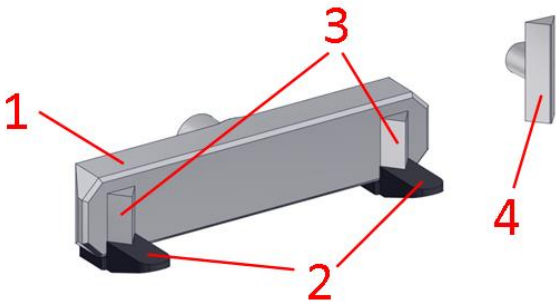
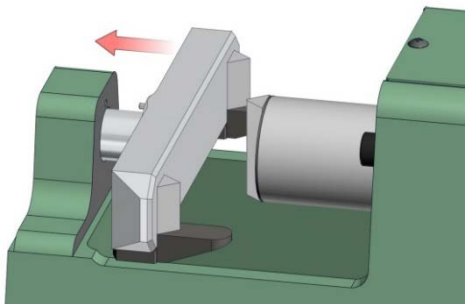

Figure 5.4.1
Figure 5.4.2
1. Install the two Transverse Strength Accessory components by first, aligning each of the pins located on the back side of the components with the holes located on the Base and Hydraulic Piston of the Universal Strength Machine. Then, gently slide the Test Support Clamp (Item 1, Figure 5.4.1) and Pressure Wedge (Item 4, Figure 5.4.1) onto the Base and Hydraulic Piston, respectively. See Figure 5.4.2 for installation procedure.
3. Gently place a prepared transverse sand specimen onto the two Specimen Support Pieces (Item 2, Figure 5.4.1) located at the bottom of the Test Piece Support Clamp. Position the sand specimen so that it is centered on the Support Clamp and makes contact with both Backing Wedges (Item 3, Figure 5.4.1); however, ensure that the sand specimen is not yet under a load from these components. The Motor Start Switch (Item 4, Figure 7.4) may be toggled and held left or right to move the Hydraulic Piston to the necessary location.